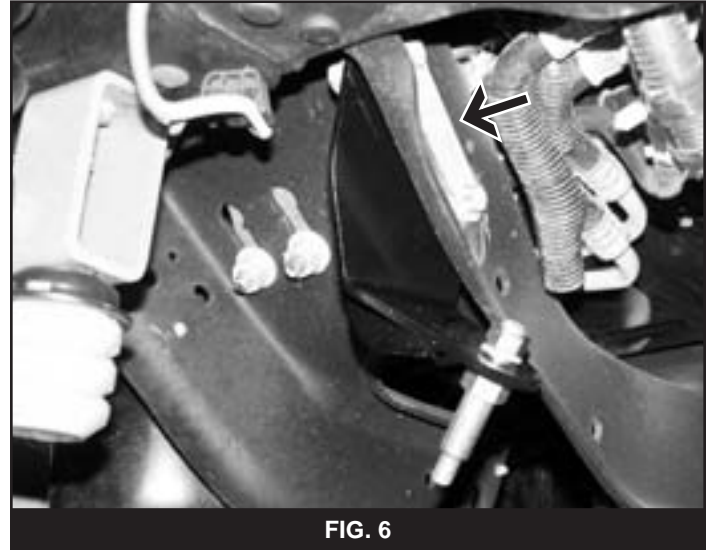

FIG. 6
12. Install the new steering stabilizer bracket to the frame using the original hardware (Fig 6). Mount the stabilizer bracket to the back side of the frame crossmember in the original mounting holes. Torque hardware to 55 ft-lbs.
13. Install the provided shock stud in the new stabilizer bracket up through the bracket so that the stud points down (Fig 6). Torque to 50 ft-lbs.